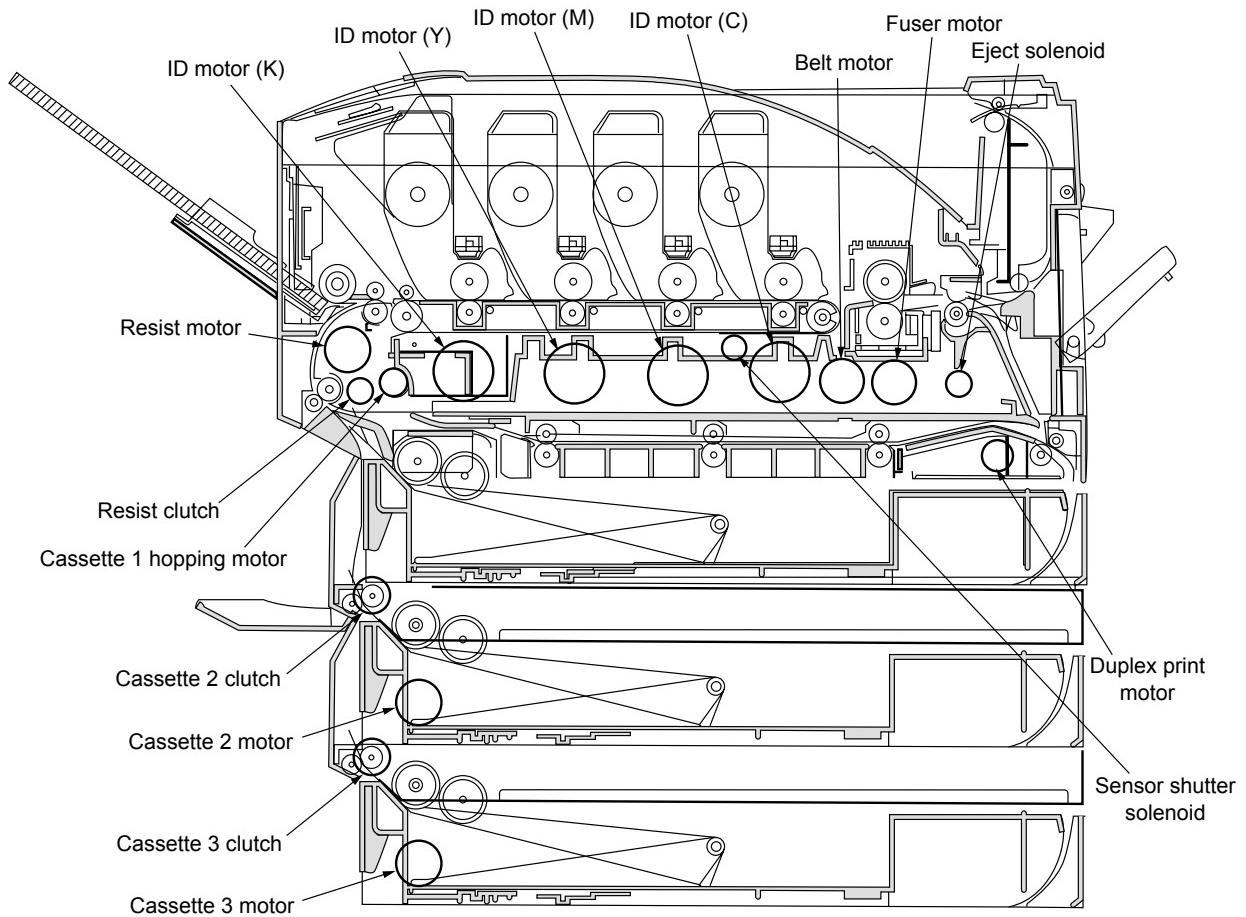

Figure 3-3
3. The test starts by pressing the**(3)** key. The name of the unit begins to blink and the corresponding unit drives for 10 seconds. (See Fig 3-3.)